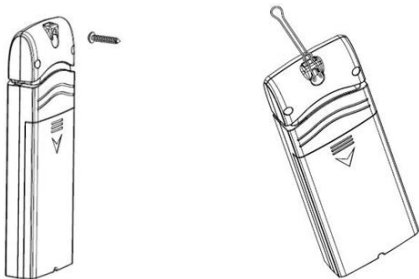

Figure 4: Indoor sensor mounting
- Use a screw or nail to affix the remote sensor to the wall, as shown on the left side of figure 4, or
- Hang the sensor using a string, as shown in right side of figure 4.